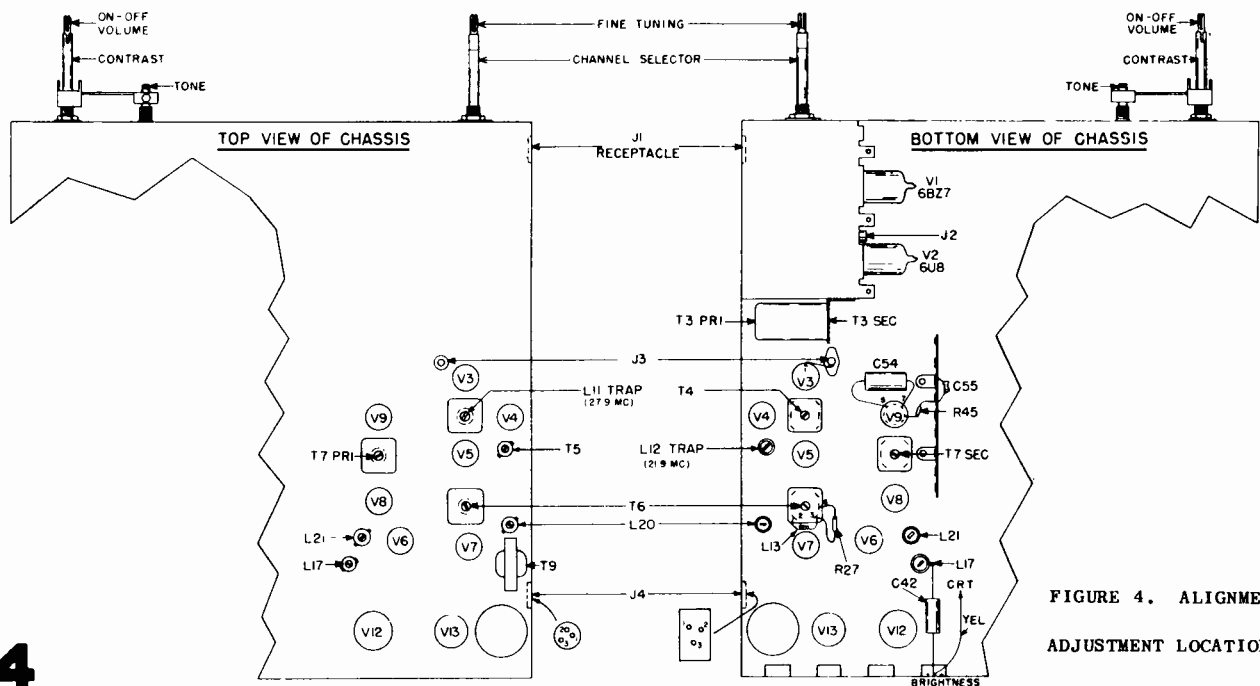

FIGURE 4. ALIGNMENT ADJUSTMENT LOCATIONS
2. By means of an external battery, apply a negative 3 volt bias, through a decoupling resistor of 47K ohms, to the AGC line, which is connected to pin 1 of the test receptacle (J-4). See Figure 4 for receptacle location.
5. Using leads as short as possible, connect the sweep generator, through a 1000 mmf capacitor, to jack J-3, feeding into the grid of 1st IF tube V-3. See Figure 4. (Do not use the loose or "spraying" method of coupling.) Set the generator center frequency to 24.6 mc, with a sweep deviation of 10 mc.